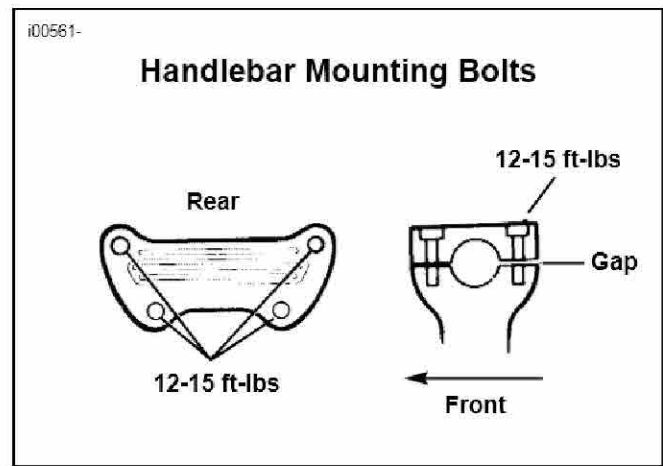

Figure 7. Handlebar Mounting
8. See Figure 7. Adjust the handlebar to the normal riding position. While holding the handlebar, tighten the rear screws to 12-15 ft-lbs.